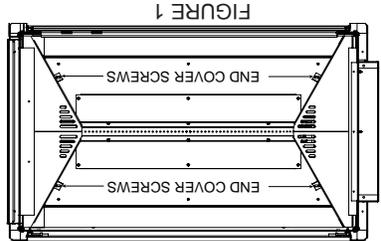

FIGURE 1
C. Remove 2 screws from each end cover to remove covers. (FIGURE 1)